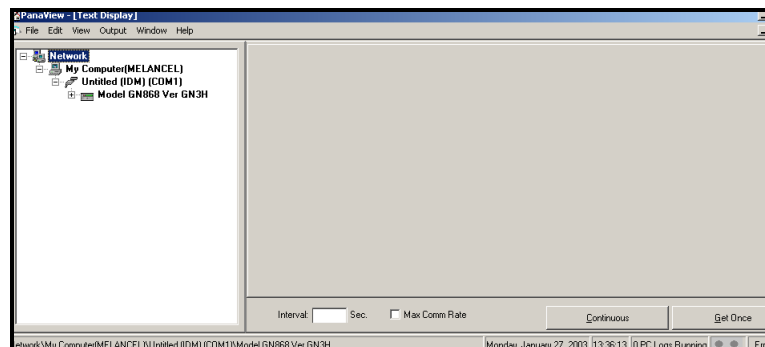

Figure 3: Text Display Window
3. Using the *Window* menu, arrange the open windows in the desired format. For this discussion, Figure 3 shows the *Text Display* window in its maximized (full-screen) size.
Note: Figure 3 has been compressed both vertically and horizontally for improved clarity.
5. Before actual data values can be displayed in the text pane, activate one of the following data collection modes (see Figure 3 on page 47):